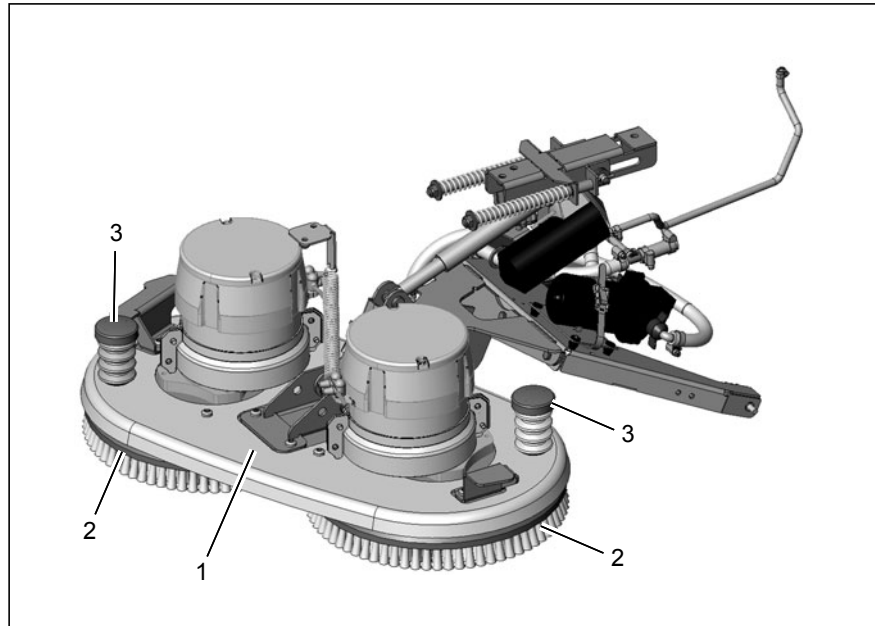

Fig.25
Clean the brushes (Fig. 25/2) on the brush head (Fig. 25/1) daily or as necessary.
2. Press the brush ejectors (Fig. 25/3) downward and remove the brushes to clean them.
2. Press the brush ejectors (Fig. 25/3) downward and remove the brushes.